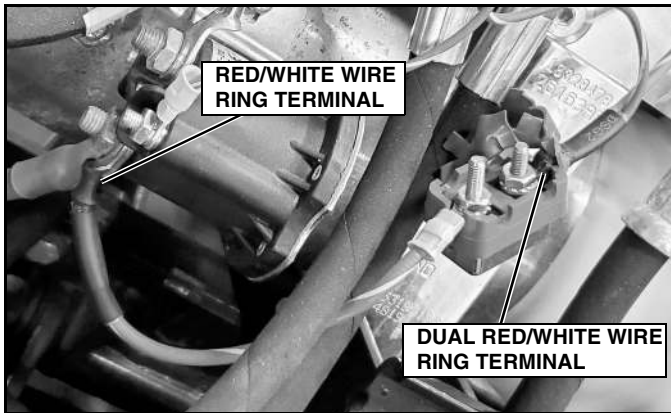

Figure 1-2
7. Remove the ring terminal for the Red/White wire attached to the 5/16"-18 post of the solenoid switch. Tighten hardware once removed. (See Figure 1-2)